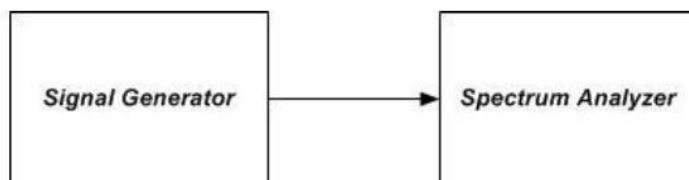

Figure 6 – Test setup for measuring characteristics of test signals used for subsequent EUT occupied bandwidth testing
- Connect the test equipment as shown in Figure 6 to firstly measure the characteristics of the test signals produced by the signal generator.